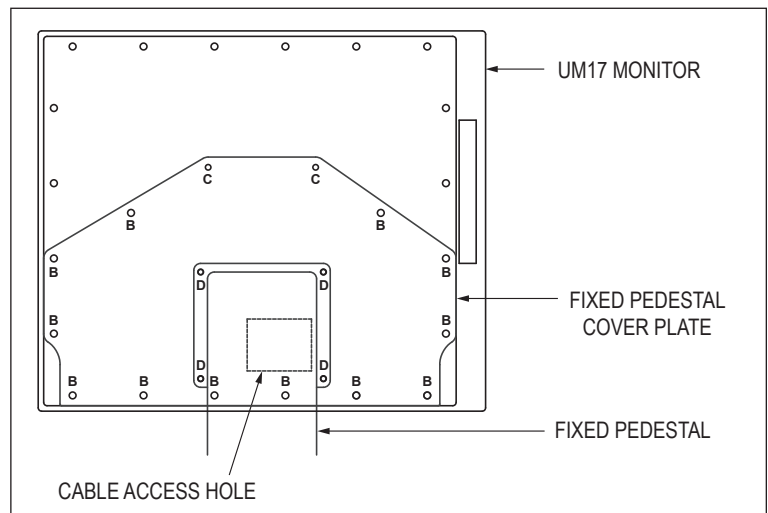

FIGURE 3
6. Refer to Figure 3. Route cables through the cable access hole on the fixed pedestal cover plate.
7. Install the provided two M4 sealing screws and washers in the locations marked "C" in Figure 3.
8. Use the twelve 10-32 screws and washers that were removed in step 4 and install them in the locations marked "B" in Figure 3. Tighten all screws until the gasket is approximately 1/16" to 3/32" thick.
9. Refer to Figure 3. Route cables into the pedestal by positioning and supporting the monitor so that the cables exiting from the monitor can be easily routed into the top of the pedestal.
10. Attach the monitor to the pedestal using the provided four 10-32 acorn nuts and nylon washers in the locations marked "D" in Figure 3.